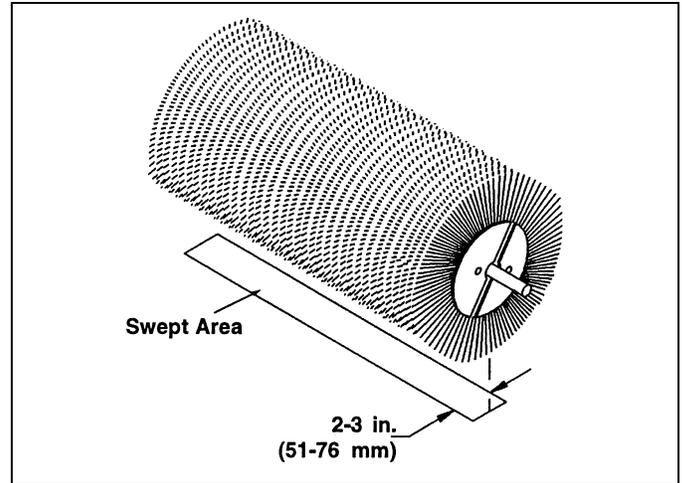

Figure 18
4. Raise the broom and back away; switch off the engine and remove the key. The brush pattern left in the dust should be 2-3 in. wide, running the entire length of the brush. (Compare the swept area with Figure 18.)